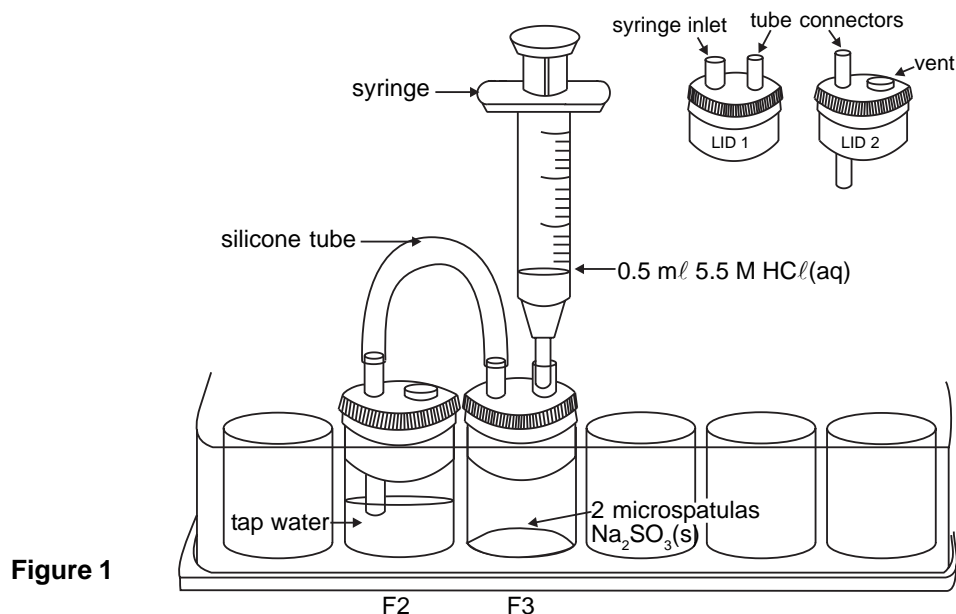

Figure 1
3. Seal well F2 with lid 2. Make sure the vent hole faces inwards (see fig.1). Seal well F3 with lid 1.